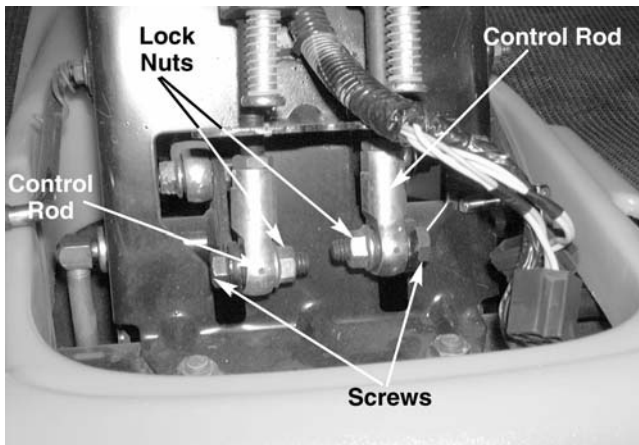

Figure 10-6.
- Remove the hex cap screw and flange lock nut securing each control rod assembly to the lower left and right bellcrank assemblies using a 9/16 socket and a 9/16 wrench. See Figure 10-6.